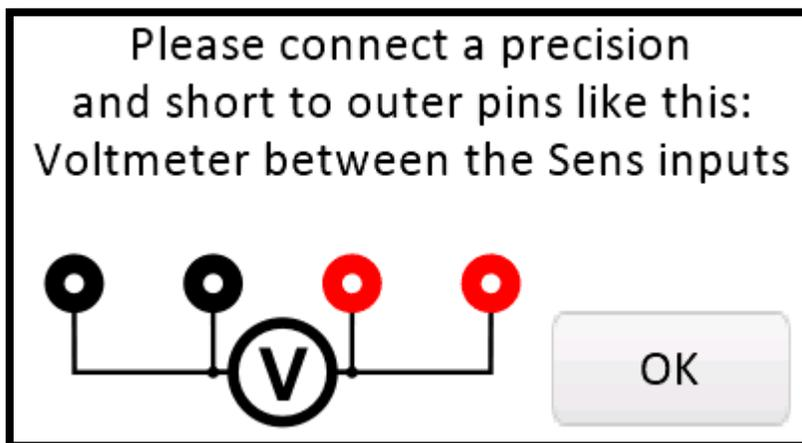

Figure 31. MAXREFDES183# Calibrate SENS inputs.
43. **Calibrate Sense Inputs:** Calibrating the SNS+ / SNS- inputs (**Figure 31**) follows the same procedure as calibrating voltage, with the exception that, for this operation, the UIO pin must be connected to the SNS+ pin and GND must be connected to the SNS- pin.